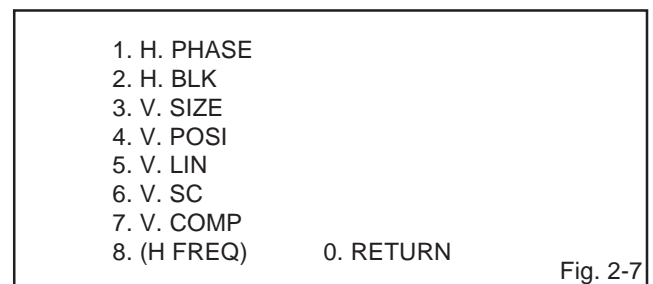

Fig. 2-7
3. Activate the adjustment mode display of **Fig. 2-1** and press the channel button **(1)** on the remote control. The **Fig. 2-7** appears on the display.